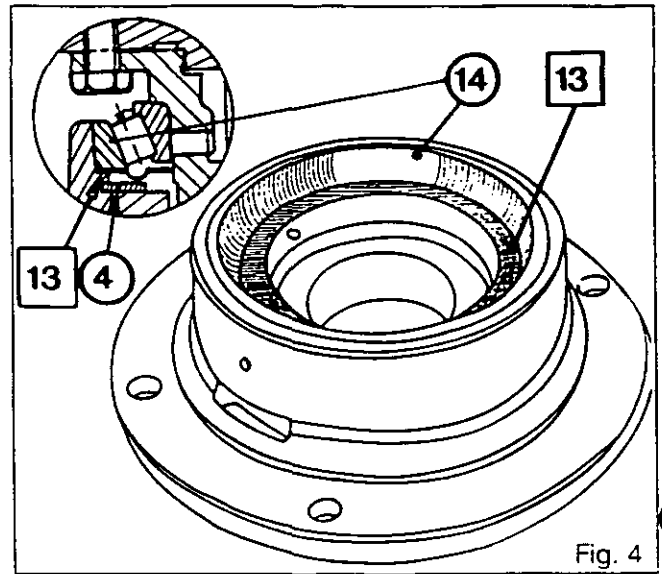

Fig. 4
- 14. Fit the circlip (4), the deflector [13] ensuring that it is fitted the right way round and the bearing cup (14) (Fig. 4).